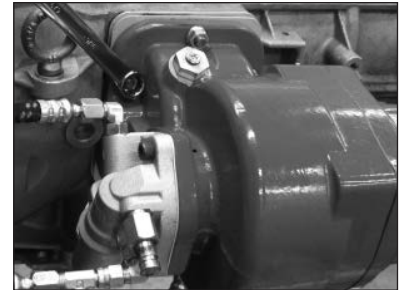

Figure 56
- 7. Install the PTO over the studs and secure the PTO with the self-locking nuts provided with the PTO (Fig. 56).